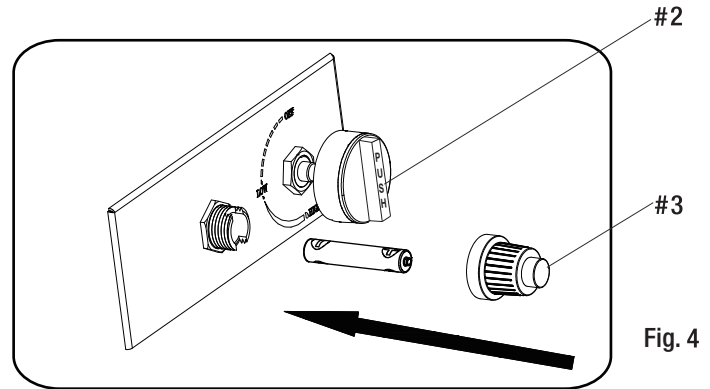

Fig. 4
- Cover the battery with the plastic cover. (Fig.4)